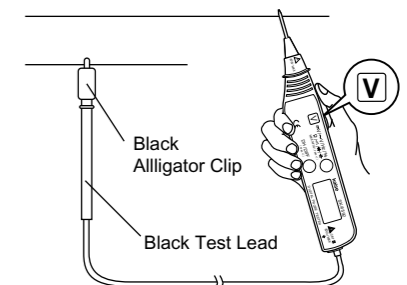

Fig. 2
- Read the voltage on LCD. Refer to the figure.2